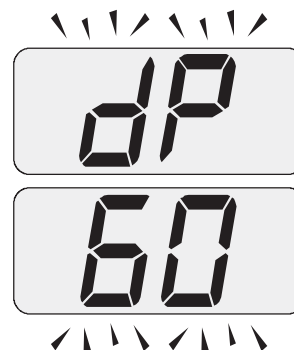

Figure 11.9
- 21 Press further key G to vary again the output in chimney sweep mode: when the display shows the letters dP that alternate with the heating water temperature value (e.g. 60), the "chimney sweep function" is at maximum output in domestic hot water mode" (Figure 11.9);